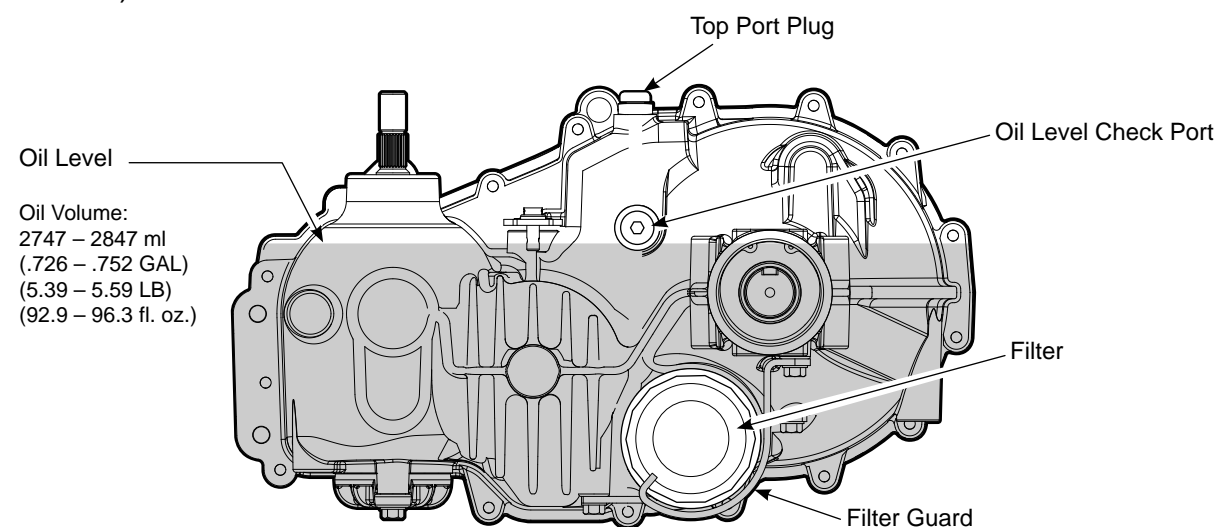

Figure 4, Filter Location
7. Remove the oil level check port plug (figure 4) from the transaxle prior to filling with oil. This will allow the transaxle to vent during oil fill.